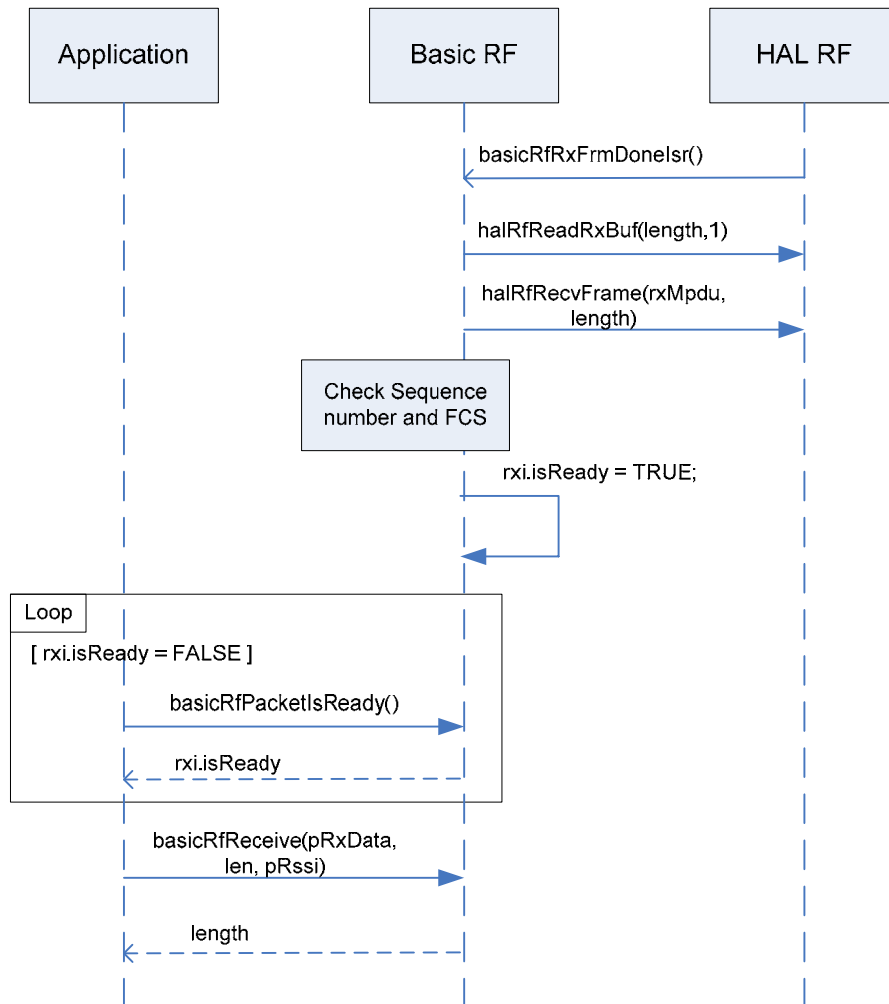

Figure 10 Packet reception
The sequence of function calls for a packet reception scenario with security features disabled is illustrated with Figure 10.
With reference to Figure 10 these are the steps that are performed during a packet reception with acknowledgement request.
1. When a new packet is completely received the RX packet done (RXPKTDONE) interrupt is issued and the rflsr interrupt service routine function in the HAL_RF module is called. This leads to the basicRfRxFrmDoneIsr() interrupt service routine being invoked. See Figure 10.
2. The length of the received frame is read out from the first byte in the RX buffer on CC2530. This is done with the call halRfReadRxBuf(length, 1) in Figure 10.